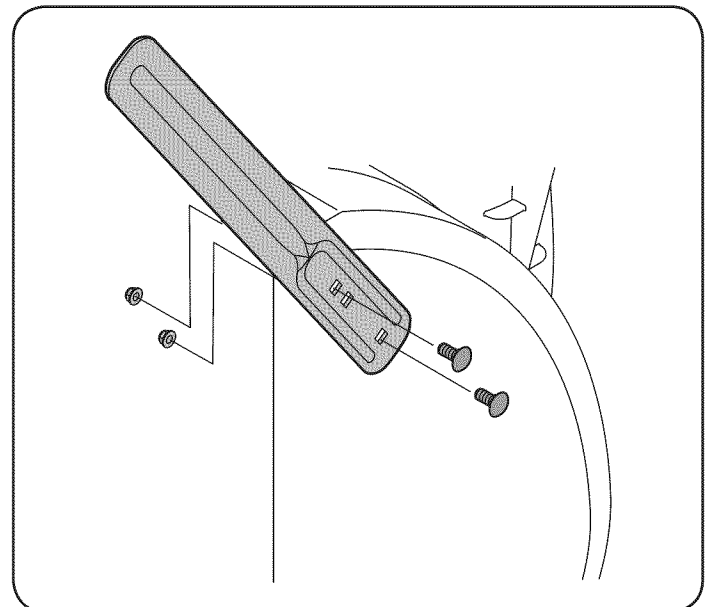

Figure 13
2. Turn the drift cutters around and position them as shown in Figure 13 to the outside of the auger housing.